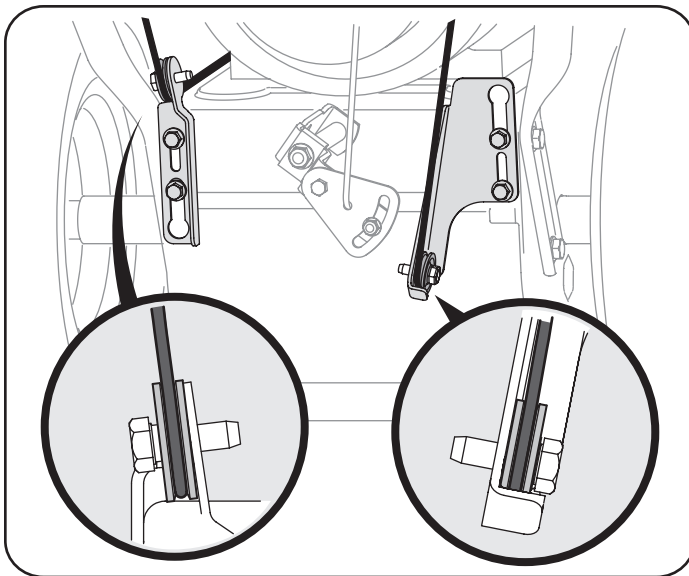

Figure 2
2. Observe the lower rear area of the snow blower to be sure both cables are aligned with roller guides before pivoting the handle upward. See Figure 2.